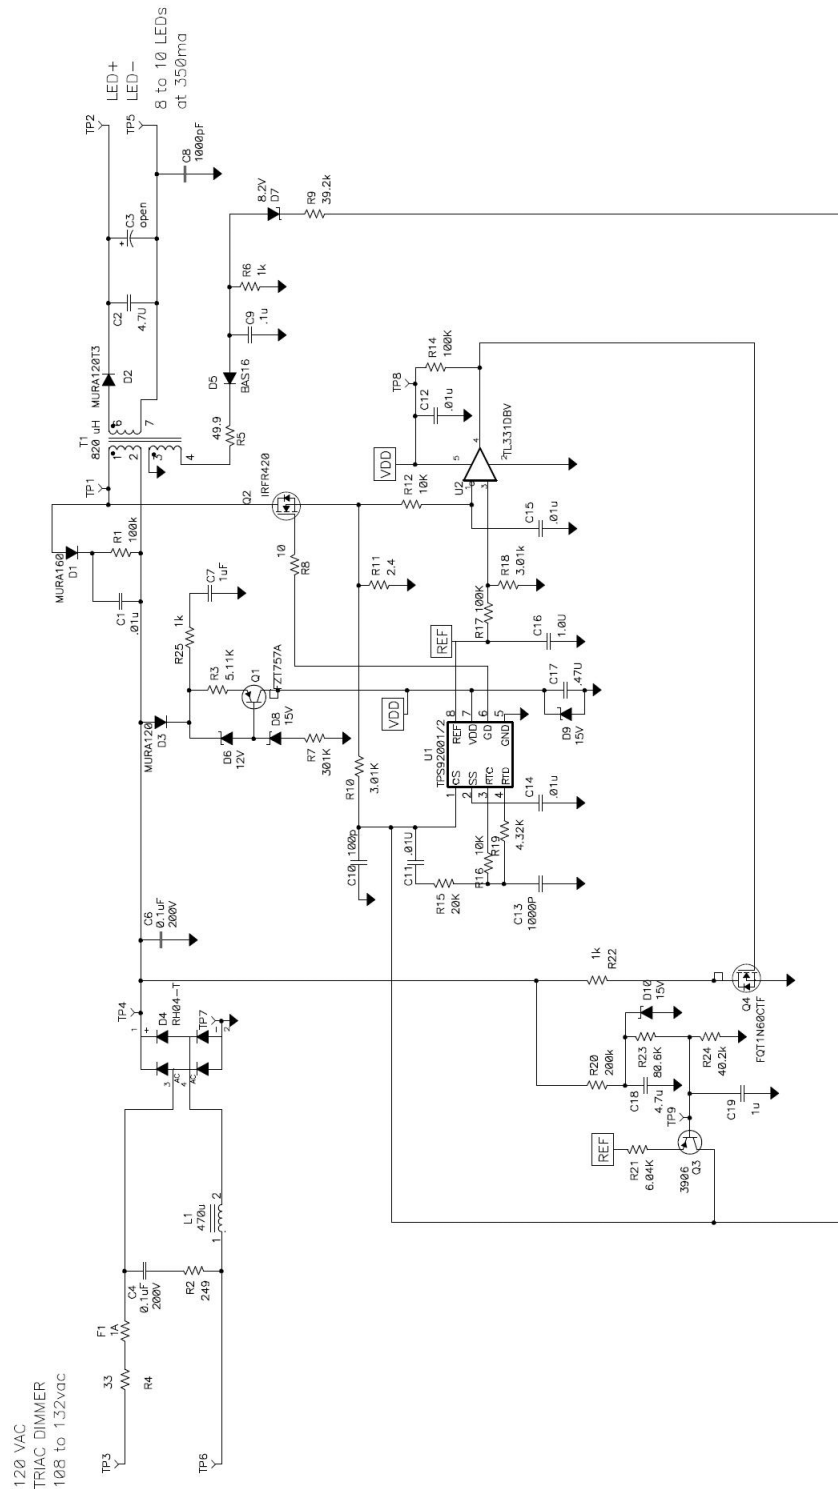
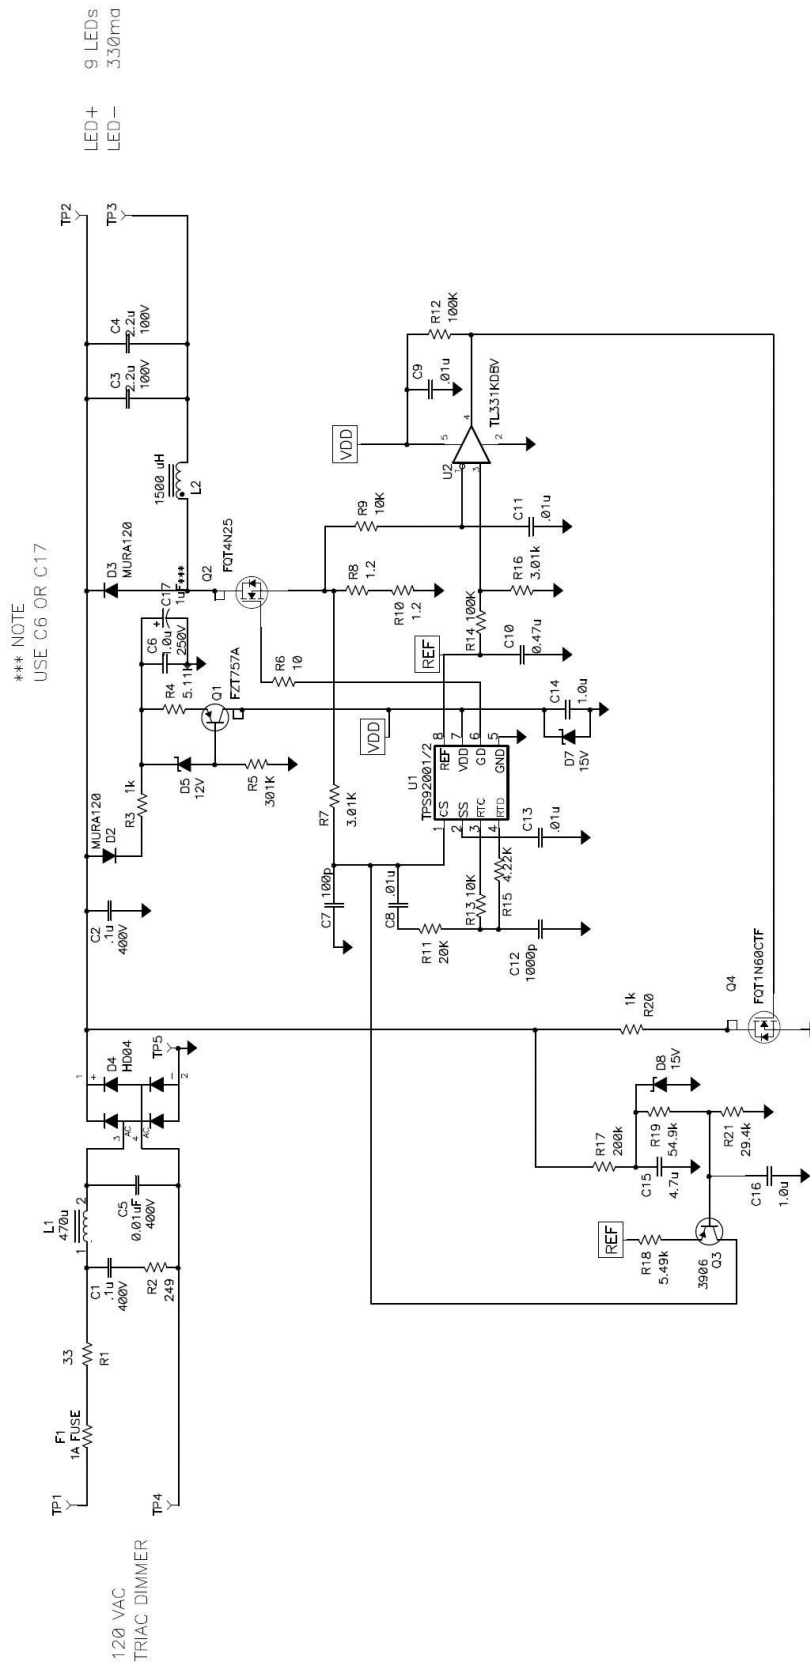

Figure 3. Isolated Flyback with TRIAC Dimming Interface
Figure 4. Low-Side (Inverted) Buck with TRIAC Dimming Interface
The typical application diagrams in Figure 3 and Figure 4 show isolated and non-isolated flyback converters utilizing the TPS92001. Note that the capacitors  $C_{REF}$  and  $C_{VDD}$  are local decoupling capacitors for the reference and device input voltage, respectively. Both capacitors should be low ESR and ESL ceramic, placed as close as possible to the device pins, and returned directly to the ground pin of the device for best stability. The REF pin provides the internal bias to many of the device functions and  $C_{REF}$  should be at least 0.47- $\mu$ F to prevent the REF voltage from drooping.
Do not operate the Isolated Flyback described in Figure 3 without load.
• Changed Figure 4 title .....	9